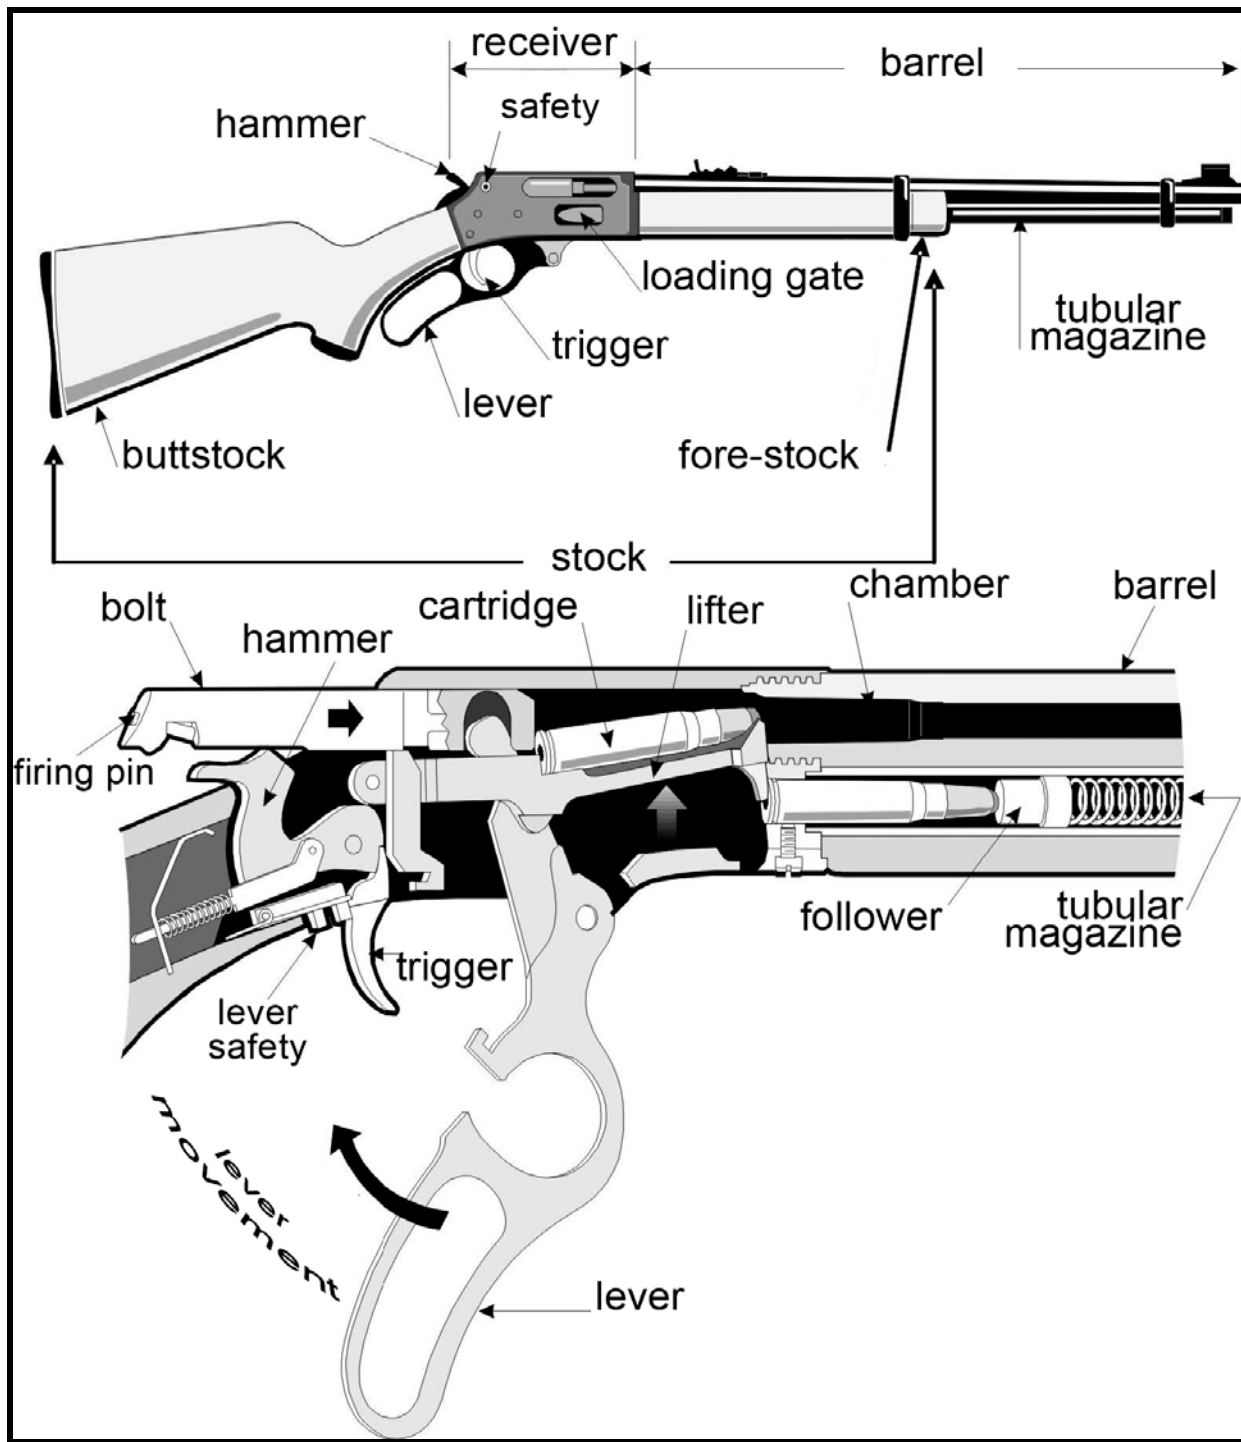

Figure 53. Lever action
- a. A lever-action firearm has a metal handle located just behind the trigger (Figure 53). This action is most often used on rifles.